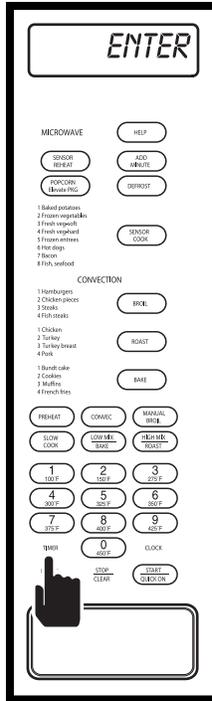

Figure 3-25.
1. Press the TIMER key and “ENTER - TIME” will flash on display (See Figure 3-25).